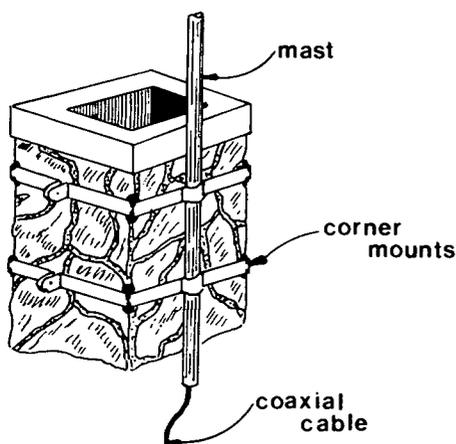

Figure 1. Mounting brackets with corner protector mounts for chimney installations.
- Avoid fastening antennas, especially self-supporting types, to old chimneys or to any chimney not designed to take such stress. Forces created by a strong wind may be sufficient to topple both chimney and antenna. If mounting on a chimney, use proper mounting brackets, corner mounts and technique shown in Figure 1.